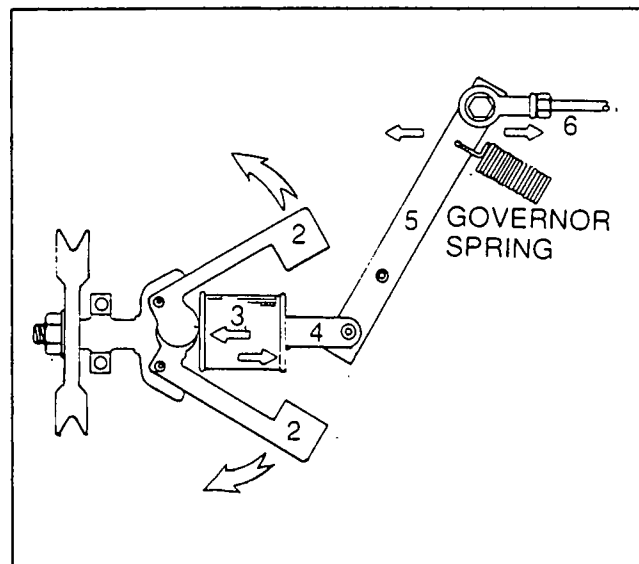

Figure 1. Governor Operating Diagram
See Figure 1. Engine and governor speed will decrease if the load on the engine is increased even slightly. In response to the decrease in engine speed, governor flyweights (2) are forced inward by governor spring force. Flyweight (2) movement is transmitted through a sleeve (3) and a shaft (4) to a governor lever (5). The governor lever (5) then moves a link (6) which actuates the carburetor throttle valve to a more open position. Engine speed then increases.